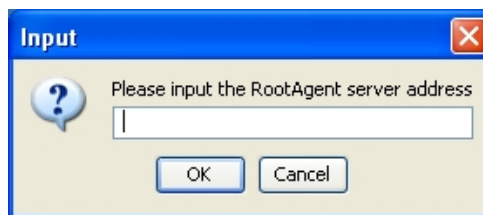

Figure 14- 2: Input Root Agent IP
-  **Step 2.** Add one (1) **Root Agent** by entering the IP address for the Root Agent. (See *Figure 14- 2: Input Root Agent IP*)